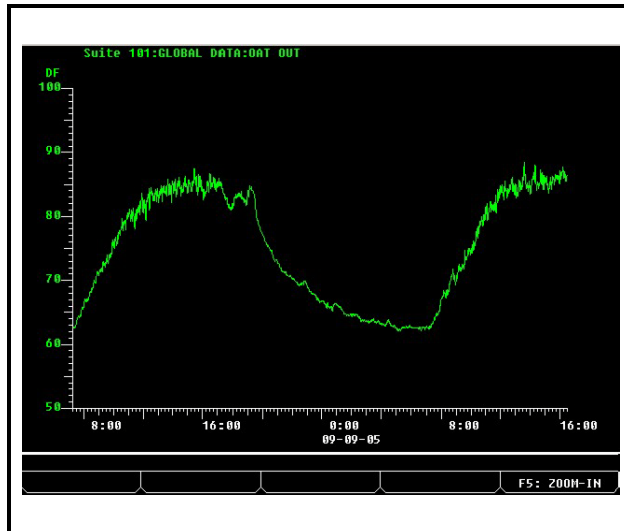

Figure 4-5 - Sample Graph View
- **F3** GRAPH - Displays logged data in a graph format (see *Sample Graph View Figure 4-5*).